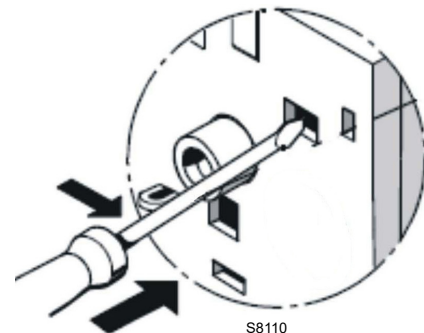

Fig. 26
- **Contact test NC (95-96) and NO (97-98)(Fig. 26)**